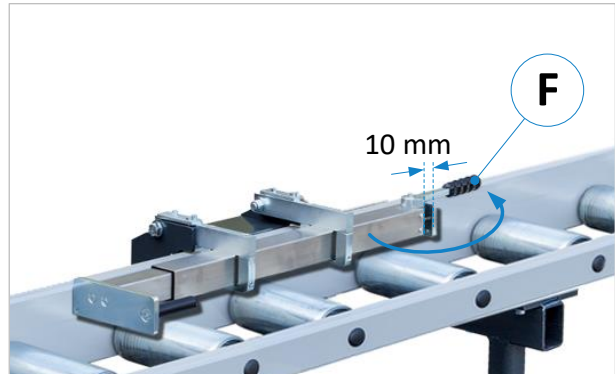

Figure 20: Lever for clearance stroke (option SZ 05)
- **Option SZ 05:** Before starting the cut, create the 10 mm clearance stroke by swivelling the eccentric lever (F) to the rear (see ⇒ Figure 20).
- **Standard:** With the handle (G) the stop arm can be folded backwards at any position.